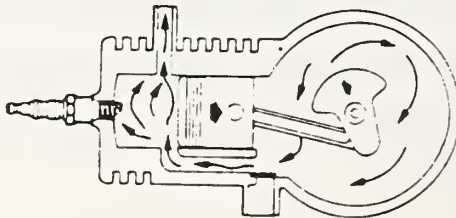

FIGURE 3
B. 2ND STROKE. THE BURNING FUEL DRIVES THE PISTON DOWN THE CYLINDER AND BEGINS TO BUILD PRESSURE IN THE CRANKCASE. ABOUT HALFWAY DOWN THE CYLINDER, THE PISTON UNCOVERS THE EXHAUST PORT AND THE BURNED GASES LEAVE. THE PISTON THEN UNCOVERS THE INLET PORT AND THE PRESSURE IN THE CRANKCASE FORCES A NEW CHARGE INTO THE CYLINDER. DURING THE REPEAT OF THE COMPRESSION STROKE, THE NEW FUEL CHARGE BLOWS OUT THE LAST OF THE EXHAUST GASES AND THE CYCLE IS REPEATED (FIGURE 3).